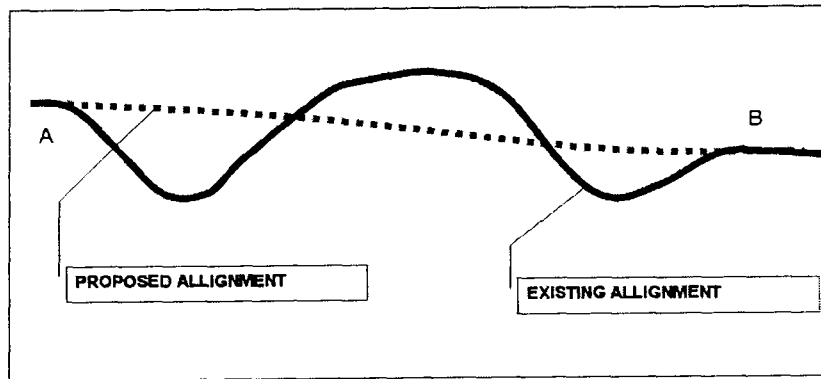

Figure 2 / Rajah 2
5. A river reach is to be straightened as shown in Figure 2. Dimensions of the proposed channel are as follows: